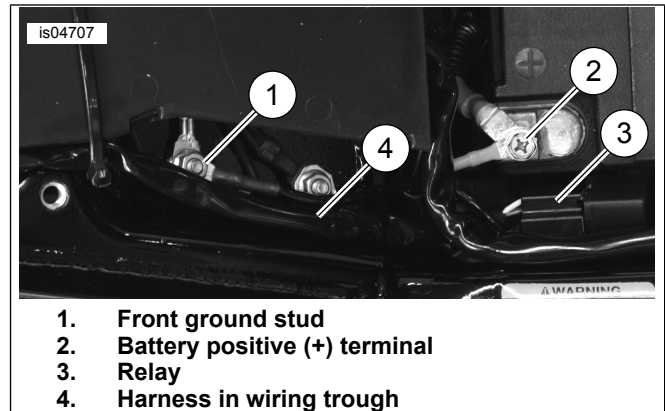

Figure 3. Horn Wiring Routing - 2008 Models
2. See Figure 3. Route the horn wiring harness (from the kit) under the main harness and up the wiring trough (4).
- a. Bring the branch with the ring terminal and **black** wire sleeve and attach to the front ground stud (1).
- b. Bring the branch with the ring terminal and **red** wire sleeve over to the area of the battery positive (+) terminal (2), and tuck the fuse holder into the available space in front of the battery. Do not connect to the positive terminal at this time.
- c. Position the relay (3) on left side of battery. Use a short cable strap to attach the relay to the left side electrical caddy.